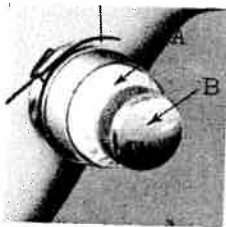

Fig. 17
To increase the tension turn dial (A) (Fig. 17) to the right, or clockwise. To decrease, turn to the left. The higher the number on the dial, the tighter the tension. Set numbers to indicating pointer (B).